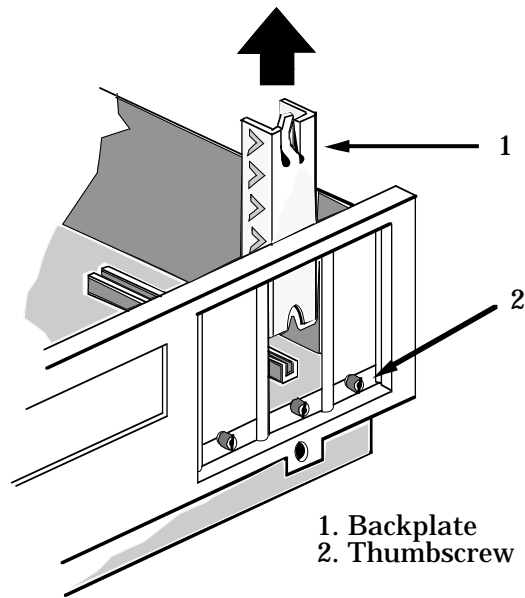

Figure 2-10. Micro Channel Backplate Detail
- Remove the protective backplate (1, Fig. 2-10) from the selected slot, as shown in Figure 2-10. Loosen the thumbscrew (2) holding the backplate (1) in place over the selected slot, and slide the backplate out of the slot.